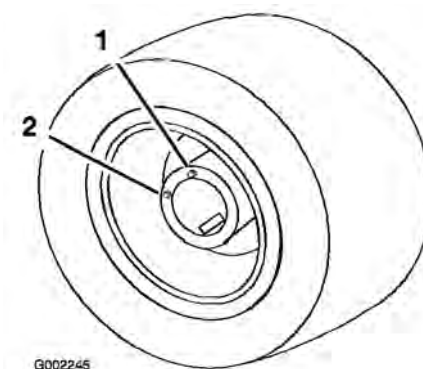

Figure 49
5. Move the vehicle slowly until the wheel is positioned for filling as illustrated in Figure 49